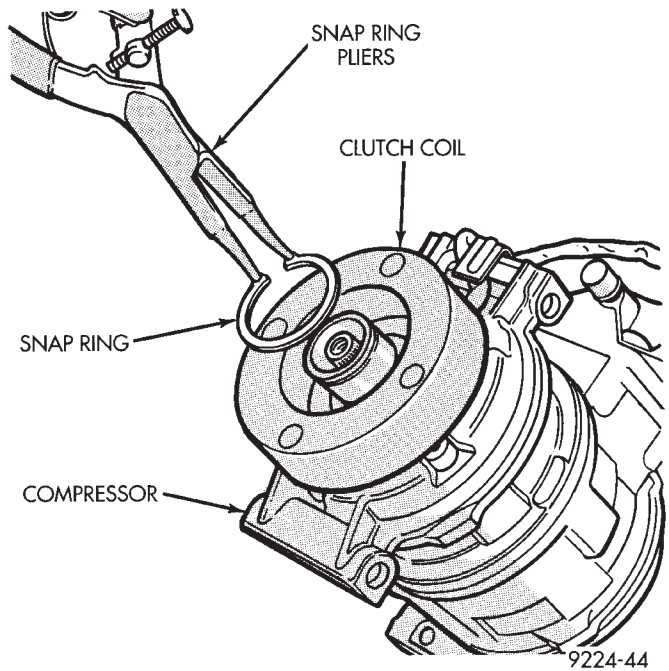

Fig. 5 Clutch Coil Snap Ring
- (4) Remove coil wire clip screw and wire harness.
- (5) Remove snap ring retaining field coil onto compressor housing (Fig. 5). Slide field coil off of compressor housing.
- (6) Examine frictional faces of the clutch pulley and front plate for wear. The pulley and front plate should be replaced if there is excessive wear or scoring. If the friction surfaces are oily, inspect the shaft nose area of the compressor for oil and remove the felt from the front cover. If the compressor felt is saturated with oil, the shaft seal is leaking and will have to be replaced.
- (7) Check bearing for roughness, excessive leakage or grease. If grease from bearing has contaminated the faces of the pulley or front plate, or if the bearing is rough, the clutch pulley and front plate should be replaced.